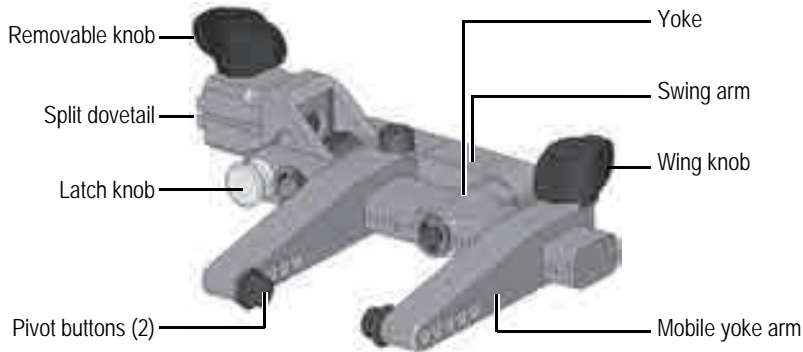

Figure 2-7 Probe-holder assembly parts
The ChainSCANNER can hold a pair of conventional UT probes or a pair of phased array probes. The probes are mounted on probe holders (see Figure 2-7 on page 28) that need the following types of adjustments:
The removable knob mounted on the swing arm allows for a precise positioning of the probe holder along the slide assembly or the slide bar (see Figure 2-7 on page 28).
The swing arm holds the yoke and ensures a constant contact pressure between the probe-wedge assembly and the surface being inspected. A latch knob allows for releasing the spring pressure to ease the installation of a wedge-probe assembly (see Figure 2-7 on page 28).
The yoke is the U-shaped part holding the wedge-probe assembly. Assembled to the swing arm with bearings, the yoke rotates to maintain the wedge parallel to the surface being inspected. The pivot buttons also allow the wedge to swivel (see Figure 2-7 on page 28).
- ◆ Lift the swing arm upward until the latch knob engages itself with a click. See Figure 2-7 on page 28 for the location of the latch knob.
2. Pull out the latch knob and slowly release the swing arm. See Figure 2-7 on page 28 for the location of the latch knob.